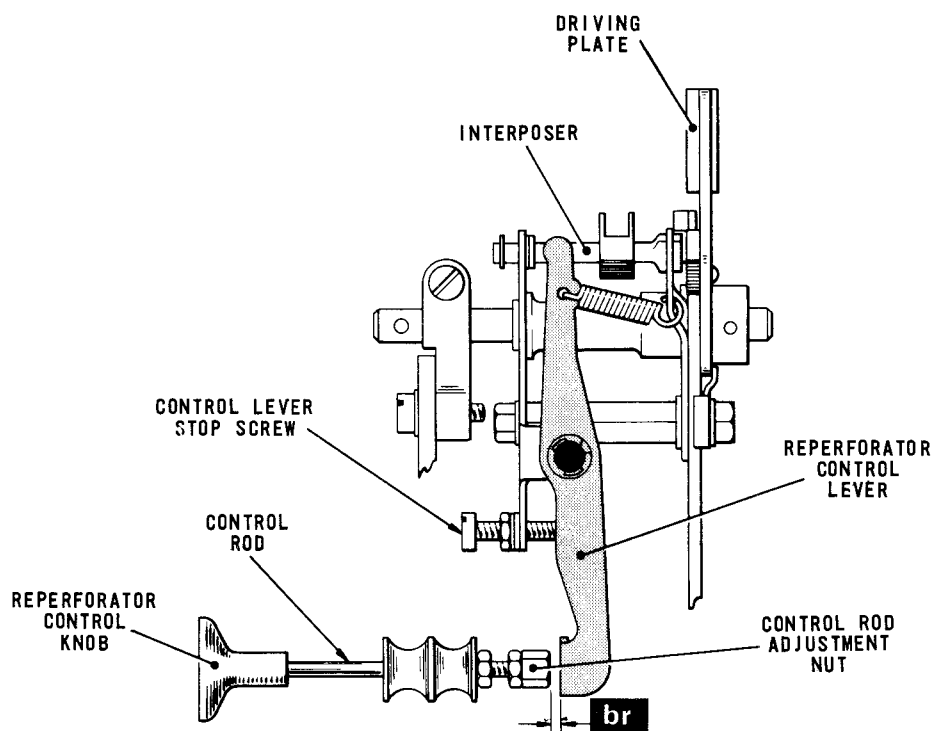
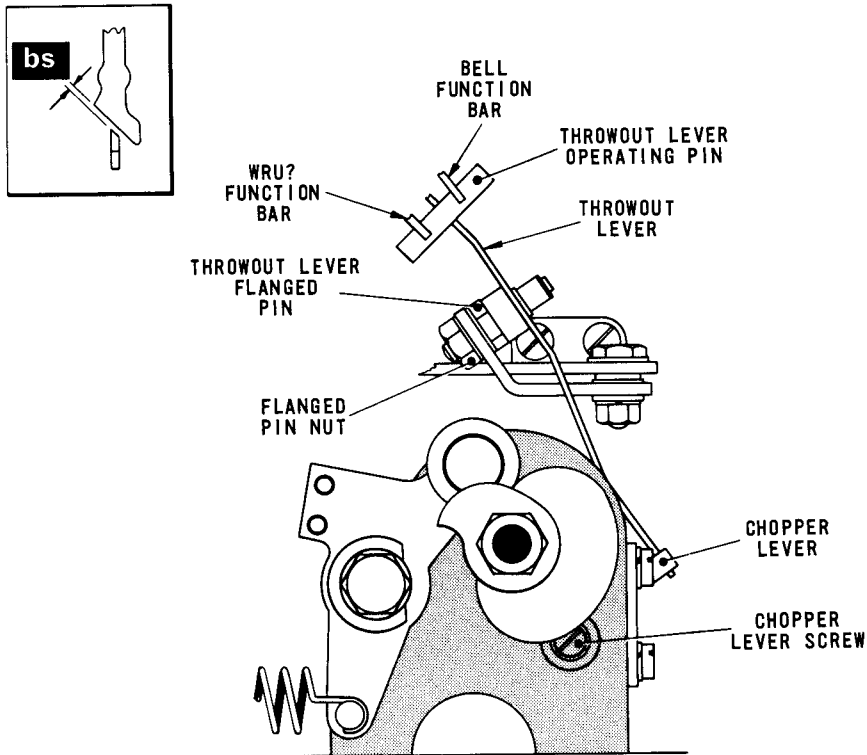

Fig. 4.80 REPERFORATOR ON/OFF CONTROL LINKAGE
Fig. 4.81 THROWOUT LEVER MECHANISM
- 98.1 Push the reperforator control knob, Fig.4.80, inwards to the OFF position. Check that this action disengages the interposer from the driving plate.
- 99.1 Pull the reperforator control knob, Fig.4.80, outwards to the ON position. Check that there is now a clearance of .005 - .020 in. (dimension 'br') between the control rod domed adjustment nut and the reperforator control lever.
- 100.1 With the machine in the rest condition, check that the tails of the Bell and WRU? function bars, Fig.4.81, are approximately equidistant from the operating pin of the throwout lever.
100.3 Move the shift lever, Fig.4.53, to the Figures position. Depress the Bell key or, if the machine has no keyboard, set up the Bell code (MMSMS) on the pins, Lift the translator clutch abutment and turn the machine by hand until the Bell function bar, Fig.4.81, has moved towards the rear of the machine. Check that this movement of the function bar disengages the interposer, Fig.4.80, from the driving plate.
100.5 To adjust, slacken the nut securing the throwout lever flanged pin, Fig.4.81, and reposition the pin until the condition is satisfied. Hold the pin in its new position and tighten its securing nut.
101.1 Push the reperforator control knob, Fig.4.80, inwards so that the interposer is disengaged from the driving plate. Lift the translator clutch abutment and turn the machine by hand until the function bars have moved towards the rear of the machine. Check that there is now an estimated clearance of .005 in. (dimension 'bs' - inset) between the tail of the throwout lever, Fig.4.81, and the operating face of the chopper lever.